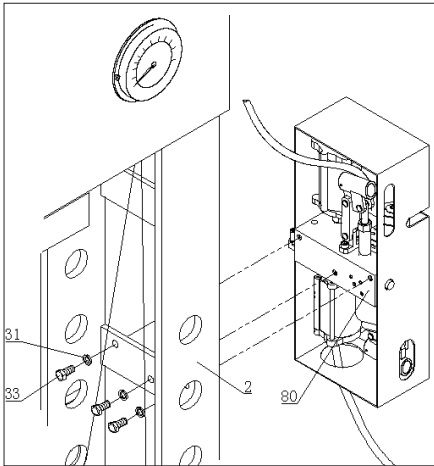

Fig.09
- Move the pump assy, Fig.07 ( CP86750 ), Fig.09 ( CP86100 ),to the outside of the post, use bolt and washer which dismantled just now to twist tight on the right connecting plate .